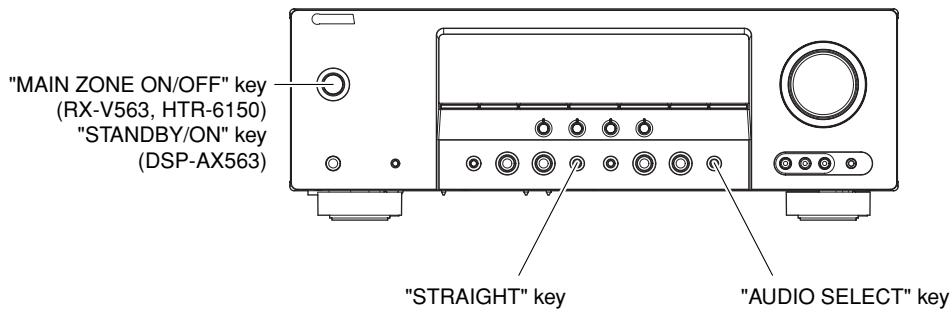

Fig. 4
2. Press the "MAIN ZONE ON/OFF" (RX-V563, HTR-6150) / "STANDBY/ON" (DSP-AX563) key while simultaneously pressing the "STRAIGHT" and "AUDIO SELECT" keys. (Fig. 4)